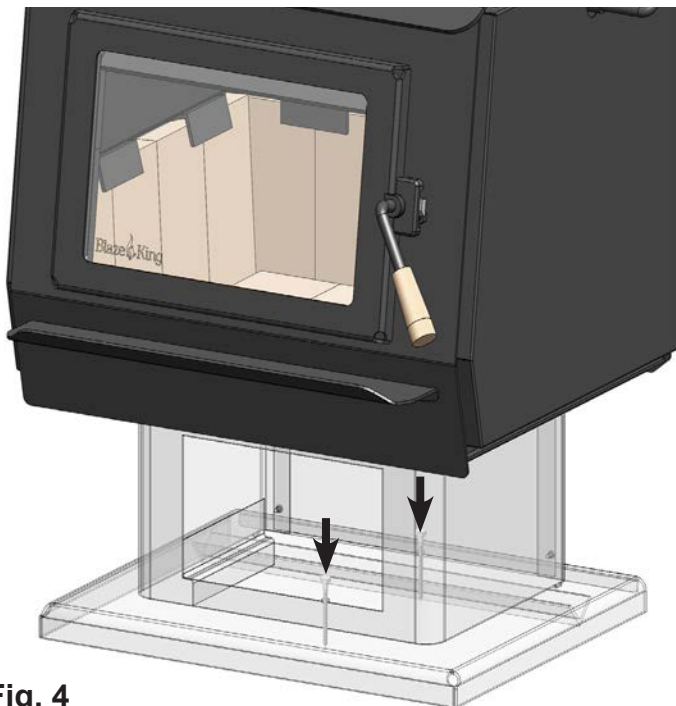

Fig. 4
- For S.Z3903.BK Ultra Pedestal Kit use #10 screws and washers through the two holes in the back angle support to secure the stove to the floor. **(Fig.4)**